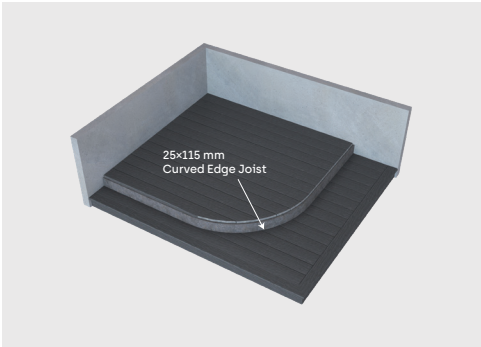

Figure 3-5
- 4. Install the second-layer 25×115 mm curved edge joist to support the 50×25 mm curved edge trim boards, as shown in Figure 3-5.